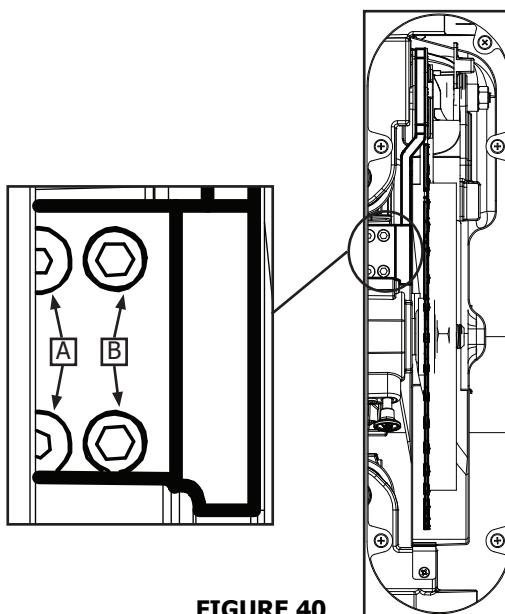

FIGURE 40
5. To adjust parallel alignment use the two set screws (B) showin in Figure 40. Clockwise: adjust riving knife to the right. Counter-clockwise: adjust riving knife to the left. If needed, use the set screws (D) to align the riving knife with blade face and the square.